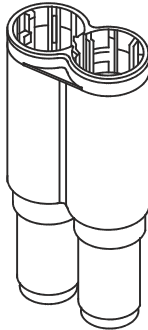

Figure 22. Heat Tube Assembly
**IMPORTANT:** If terminating 1.6 mm cordage, place the heat tube assembly fixtures into the ports of the oven (Figure 22).